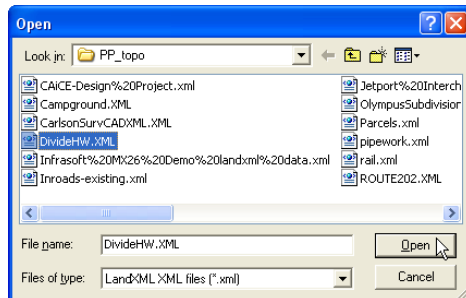

Figure 6-3. Open LandXML File
2. On the **Open** dialog box, navigate to the location of the desired file, select it, and click **Open** (Figure 6-3).